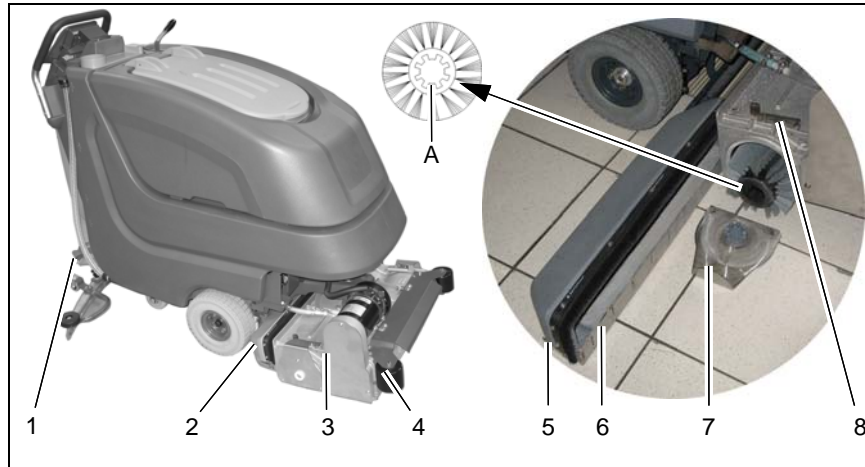

Abb.11
Clean dirt hopper (Abb. 11/2) at daily intervals or as required.
Use quick-release (Abb. 11/5) to loosen feed inlet (Abb. 11/6) and clean dirt hopper.
1. Lift up cylindrical brush deck (Abb. 11/3) by pedalt (Abb. 11/1).
2. Release brush seating (Abb. 11/7) by locking lever (Abb. 11/8).
Check roller bumpers (Abb. 11/4) at weekly intervals and replace if required.